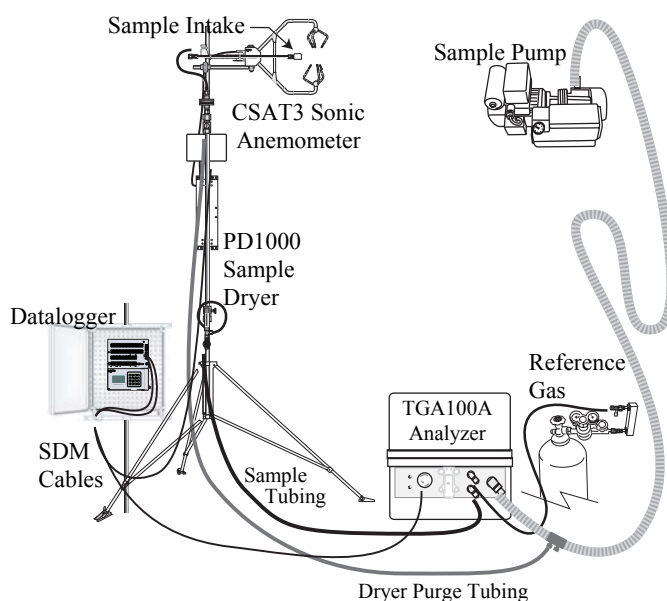

FIGURE OV6.1-1. Example Eddy Covariance Flux Application
The TGA100A's frequency response, sensitivity, and selectivity are optimized for measuring trace gas fluxes using the eddy covariance (EC) method. Its 500 Hz sample rate allows a datalogger to read its concentration data with a maximum timing jitter of only  $\pm 1$  ms. A typical eddy covariance system (illustrated in Figure OV6.1-1) includes a TGA100A, a CSAT3 sonic anemometer, and a datalogger.